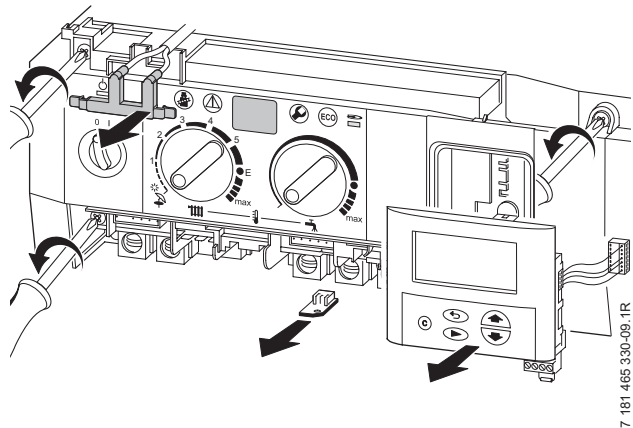

Fig. 55
- ▶ Remove two top fixing screws from the control box. Refer to fig. 55.